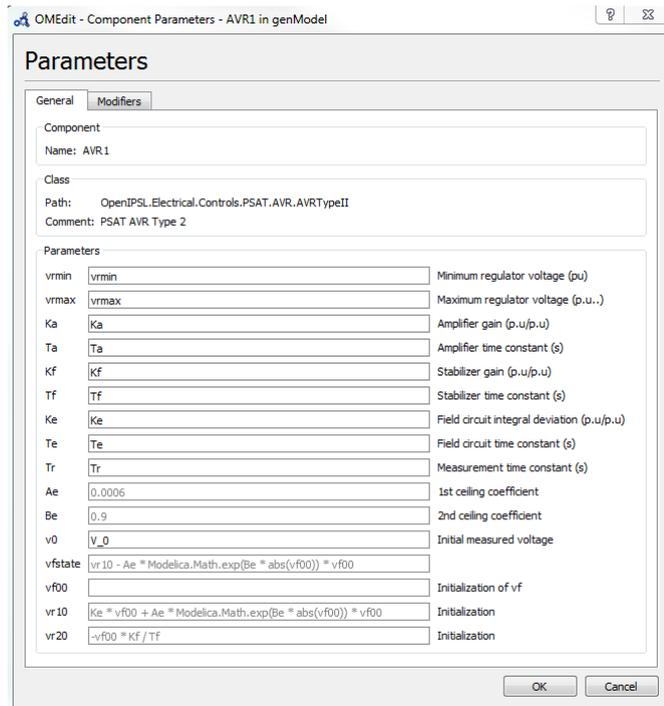

Figure 2: AVR parameters
8. In the diagram view of the generator workspace, open the AVR dialog and fill the text spaces next to parameter names as shown in Figure 2. **Note that parameter v_0 is filled with V_0 .**